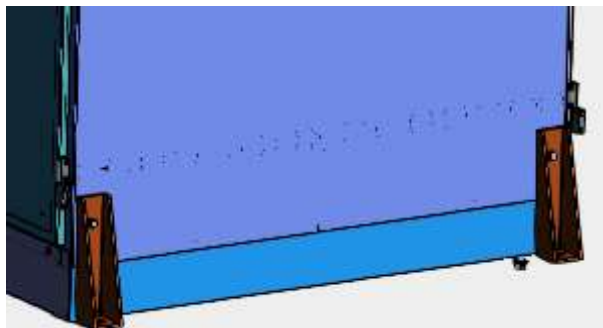

FIGURE 4: ANCHOR BOLTS (1 SIDE SHOWN)
- Position cabinet on concrete pad. Use (4) ½" diameter concrete anchor bolts to mount the BOX enclosure (Figure 4).